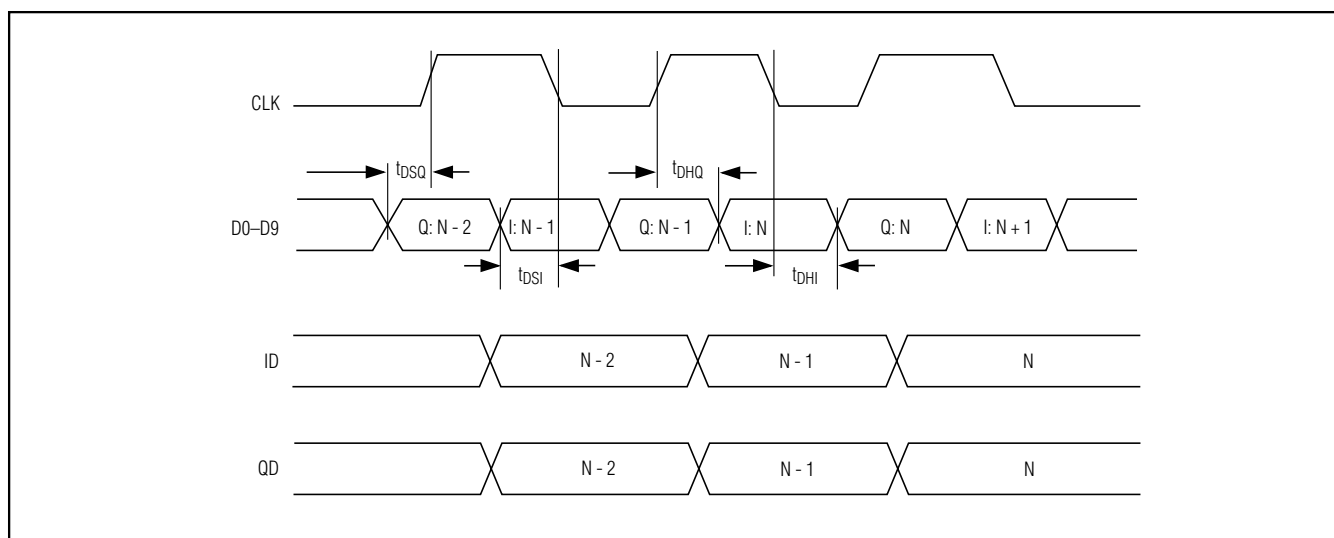

Figure 5. Tx DAC System Timing Diagram
Figure 5 shows the relationship between the clock, input data, and analog outputs. Data for the I channel (ID) is latched on the falling edge of the clock signal, and Q-channel (QD) data is latched on the rising edge of the clock signal. Both I and Q outputs are simultaneously updated on the next rising edge of the clock signal.